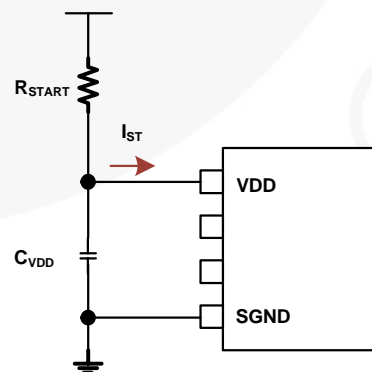

Figure 35. Equivalent Circuit During Startup
Figure 35 shows the equivalent circuit for estimating t_{start} . From the circuit analysis, V_{DD} variation versus time is given by:
- Refer to the Design Guide startup circuit in Figure 35. Due to reducing power loss on the startup resistor (R1) for high-efficiency systems, it is possible to use a higher resistor value than recommended. In this case, the IC doesn't reliably keep SD (shutdown) state for protection. Carefully select the startup resistor (R1) or use the recommended value (470k) to sufficiently supply shutdown current (I_{SD}) and startup current (I_{ST}).